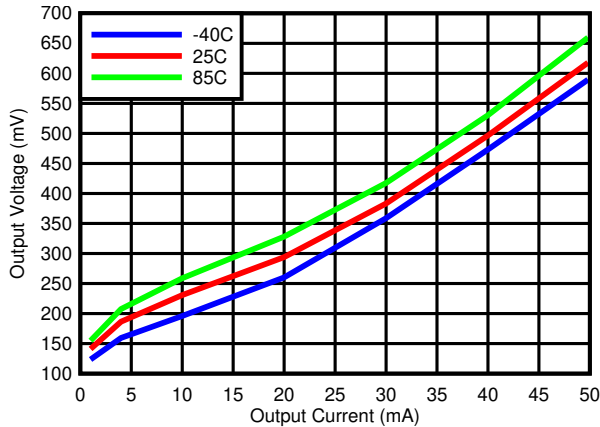
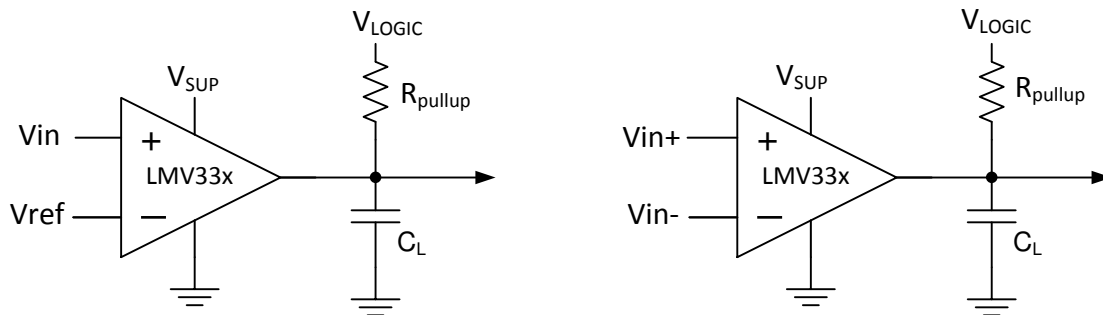

Figure 5-3. Output Voltage vs Output Current
Figure 7-1. Typical Application Schematic
The output consists of an open drain NPN (pull-down or low side) transistor. The output NPN sinks current when the negative input voltage is higher than the positive input voltage and the offset voltage. The V_{OL} is resistive and scales with the output current. Please see Figure 5-3 for V_{OL} values with respect to the output current.
Output current is determined by the pull-up resistance (R_{pullup}) and Vlogic voltage, refer to Figure 7-1. The output current produces a output low voltage (V_{OL}) from the comparator. In which V_{OL} is proportional to the output current. Use Figure 5-3 to determine V_{OL} based on the output current.
- R_{CE} can be determine by taking the slope of Figure 5-3 in it's linear region at the desired temperature, or by dividing the V_{OL} by I_{out}